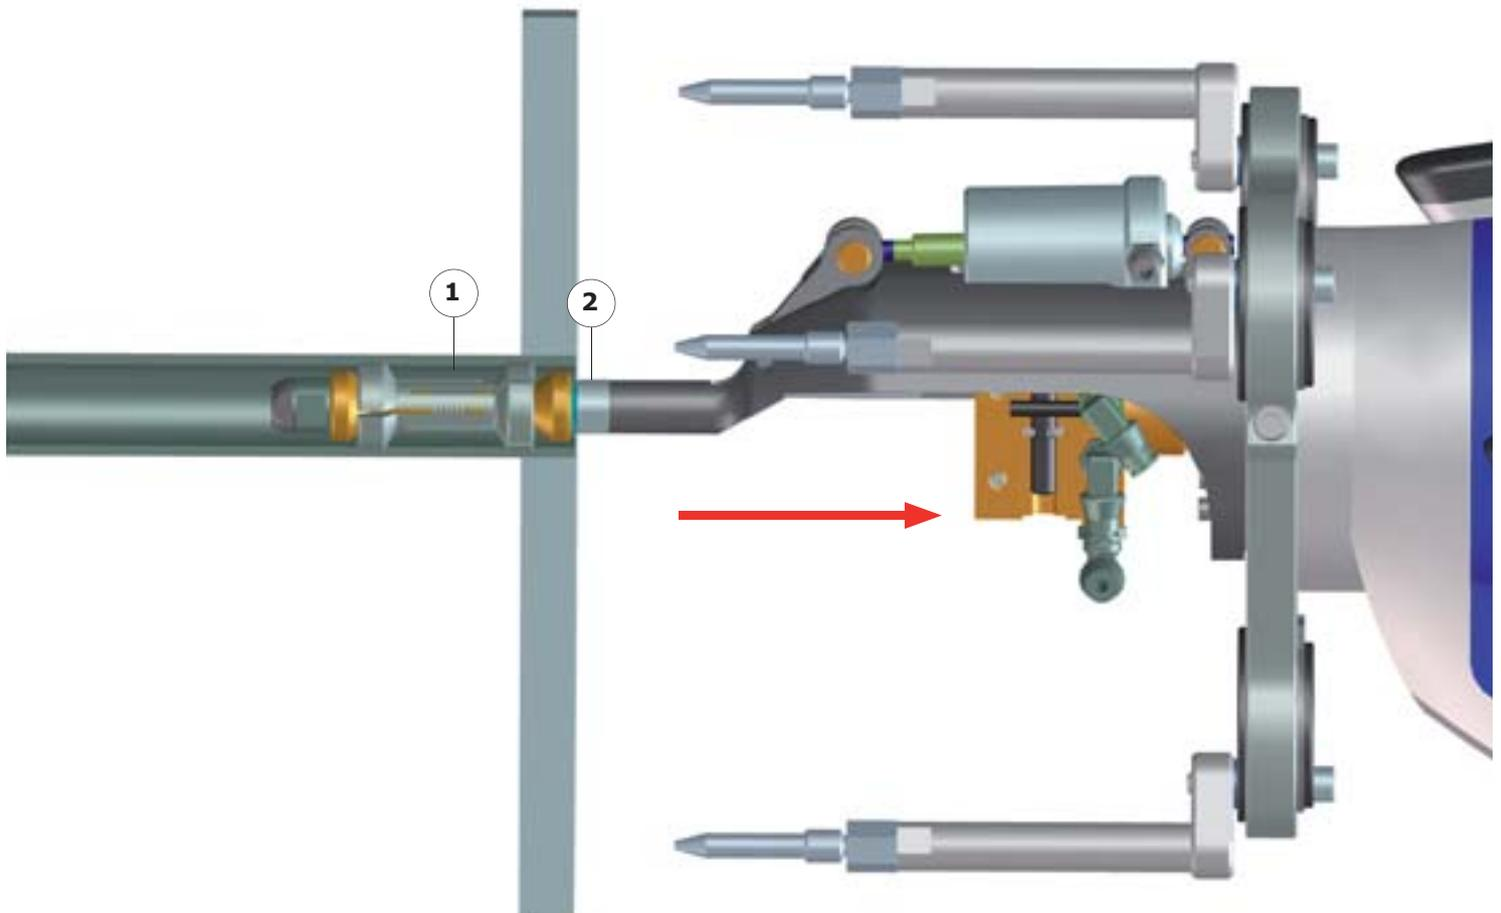

Fig.5.40 - Blocked clamping mechanism
- The mandrel (Fig.5.40 - Rep.1) retracts but keeps blocked into the tube
- Using a key, completely unscrew the bush nut (Fig.5.40 - Rep.2) from the tie rod.